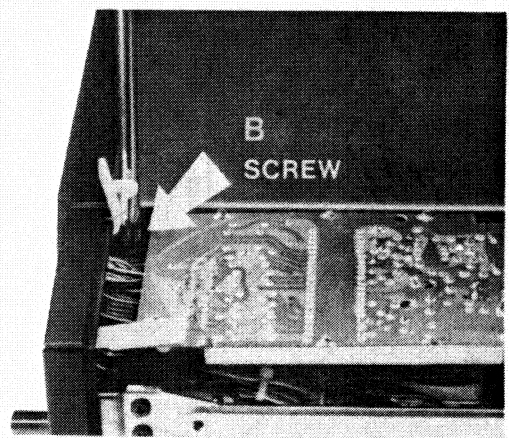

Figure 5.
- (2) Lift the left plastic holder of Display PCB by Pincers as shown in Figure 2&4, then remove the screw indicated by "B" from Bottom Chassis as shown in Figure 5.